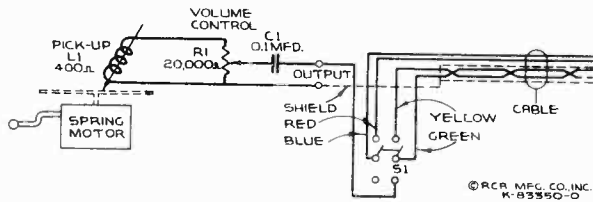

Figure 6—Schematic Circuit Diagram
1. (Applies to Model R-93-S only). It is necessary to short the 0.1 mfd. blocking capacitor C1 in Model R-93-S (see figure 6) for cases in which the control grid d-c bias, or cathode current flow, would be removed or prevented by this capacitor when the record player switch is thrown to "Phono" position. C1 is provided to permit operation on battery receivers without shorting bias batteries, etc. Cases in which it is necessary to short C1 are indicated in "RCA Victor Receivers—Details of Lead Connections" of this booklet.
Model R-93-S has a spring wound motor and is primarily intended for use with battery receivers. The pickup and tonearm are identical to those described in "Model R-93 (third production)," therefore the adjustments will be the same. Reference to the Schematic diagram figure 6 will show a capacitor C1 in series with one of the leads to the binding posts. The purpose of C1 is to permit operation on battery receivers without shorting bias batteries, etc. Observe Note 1 under "Introduction" when making connections to radio receivers.